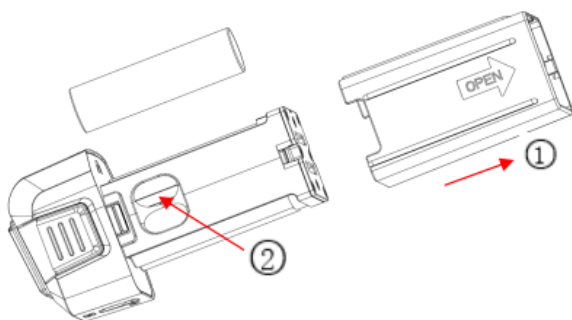

Figure 7-2-2 Removable and install battery pack
- 3) As shown in Figure 7-2-2, remove the battery pack, one hand holds the bottom of the battery pack, another hand pulls out the battery cover as the arrow direction of ①.
- 4) As shown in Figure 7-2-2, when the battery cover is removed, place fingers into the location of ② to push the batteries out from the battery compartment.